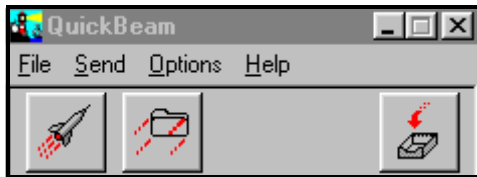

Figure 6-14: The QuickBeam Window
- Click on the desired file, and drag it onto the rocket button in the QuickBeam window, as shown in Figure 6-14 below.